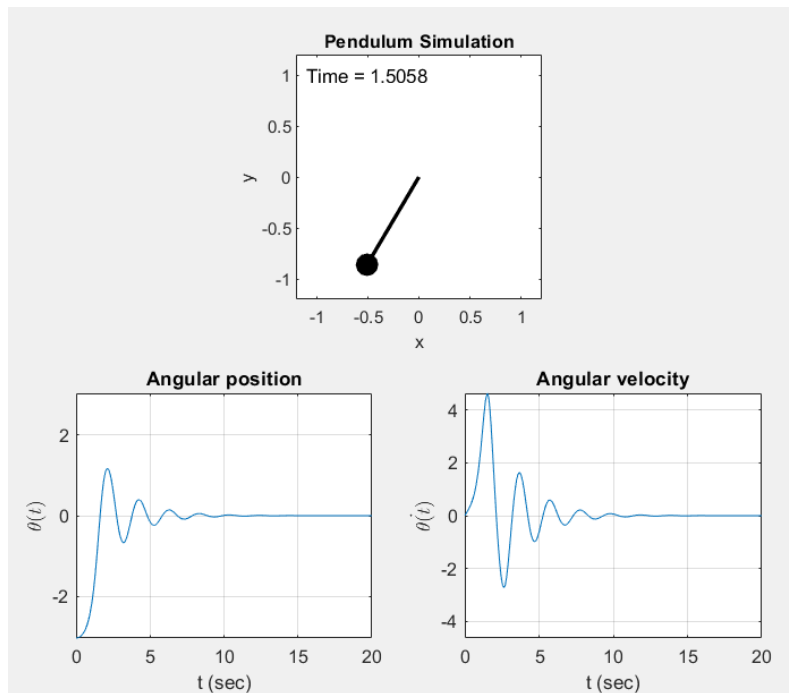

Figure 2: Simulation layout
In this part, you create a figure that includes 3 subplots: a dynamic figure, the trajectory of $\theta(t)$ and the trajectory of $\dot{\theta}(t)$. The structure of the subplots is shown in Figure 2.
- Open `figure(2)` and plot the trajectory of $v_1(t) = \theta(t)$ in a subplot located in the second row and the first column of the figure. Use an appropriate title, x-label and y-label to describe the subplot. The x-axis should be from 0 to 20 (sec) and the y-axis should be such that it is tight and symmetric. In other words, the y-axis limit should be such that the absolute value of the maximum and minimum y-axis limits are equal. Furthermore, the y-axis limit should be equal to the maximum of $|\theta(t)|$ for $t \in [0, 20]$. See, for example, the y-limits of the two subplots in the second row of Figure 2. (2 marks)